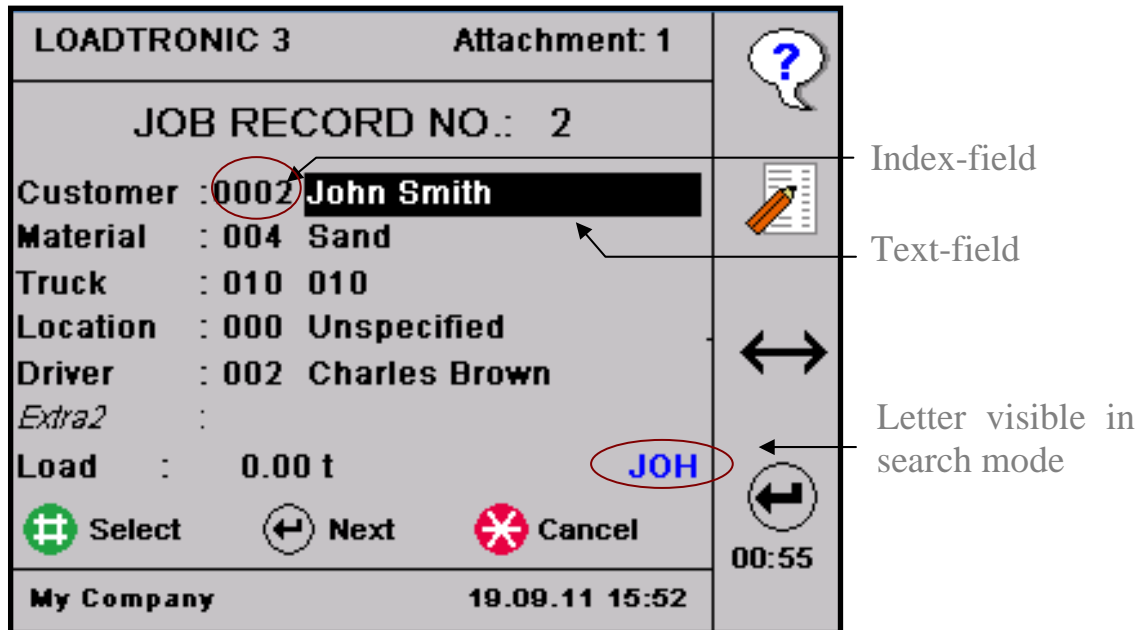

Figure 4-1 Search for customer.
3. Press the number-keys holding the characters of your search description repeatedly until the character is visible in the display, refer Figure 4-1. The search string can be up to 5 characters long.